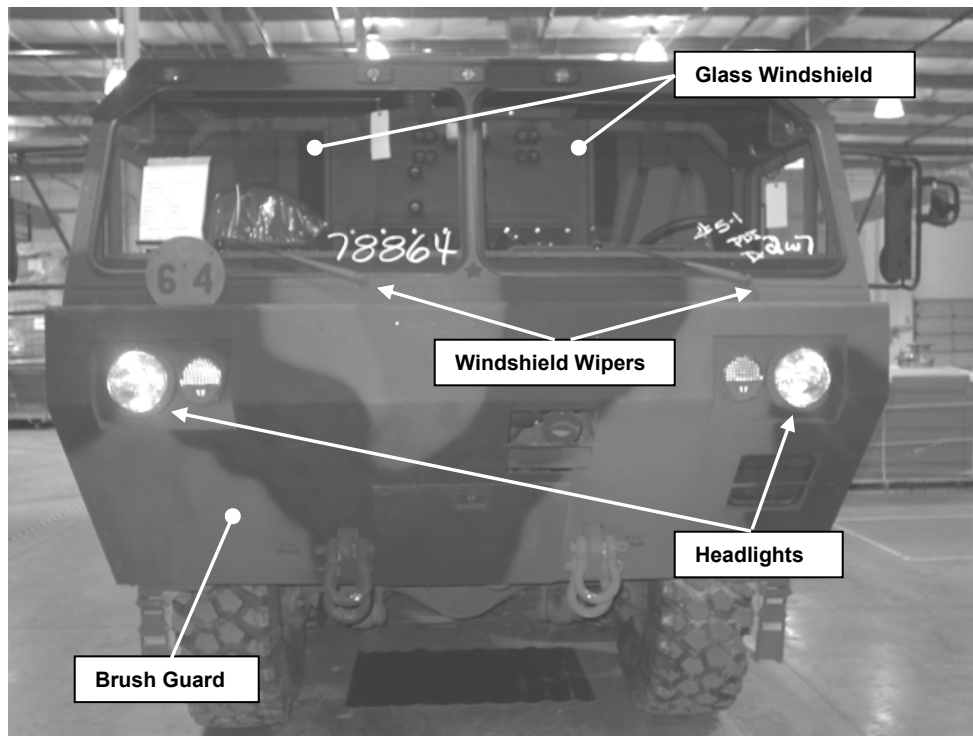

Figure 5. Front vehicle components to be removed.
- e) Remove the Brush Guard mounted to the front of the vehicle (see Figure 5). The Brush Guard is mounted all around its perimeter with bolts and nuts. The Brush Guard weighs approximately 100 lb, and must be supported before removing all of the fasteners.
- f) Remove the Glass Windshields and the rubber retaining channel (see Figure 5).
- h) Remove both Headlights located in front of the vehicle (see Figure 5). This is done by removing the three nuts that attach the Headlight to the cab. The nuts may be found inside the vehicle just behind the light. On the passenger side, the lower section of the glove box must be removed to access these nuts. Remove and mark the three wire connectors on the back of each light so that the same connection locations may be used when the lights are re-installed.